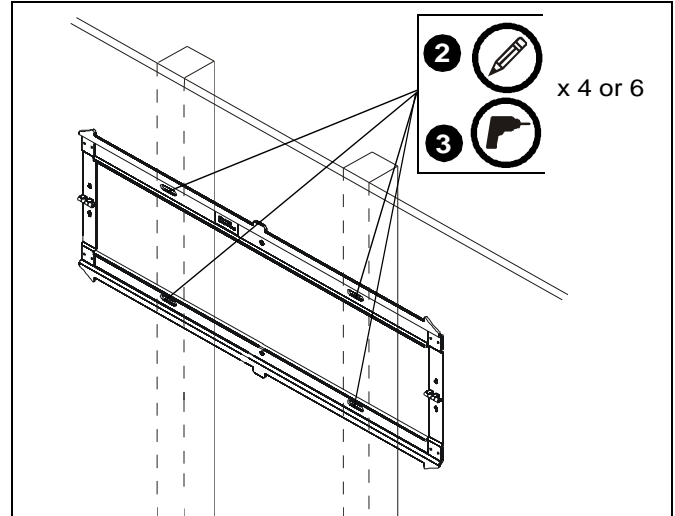

Figure 2
2. Level wall plate (A) and mark locations of pilot holes. (See Figure 2)
**NOTE:** The RMF2 must be installed on two 16" studs. The RLF2 can be installed on 16" studs (inner holes) or 24" studs (outer holes). For the RXF2, it can be mounted over two or three 16" studs or two 24" studs. If mounting to three 16" studs, it must be mounted to all three studs using the outer holes and center holes. (See Figures 2 and 3) All studs must be 2"x4".
3. Drill 7/32" (5.5mm) diameter pilot holes into wood studs at marked locations. (See Figure 2)